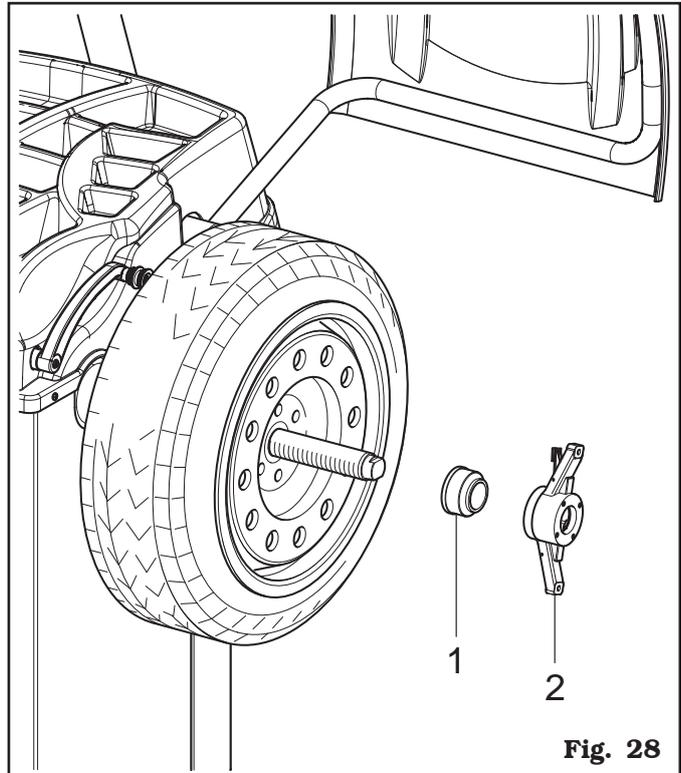

Fig. 28
4. Fit the protection cap (**Fig. 28 ref. 1**) in the locknut (**Fig. 28 ref. 2**) and fasten against the wheel.